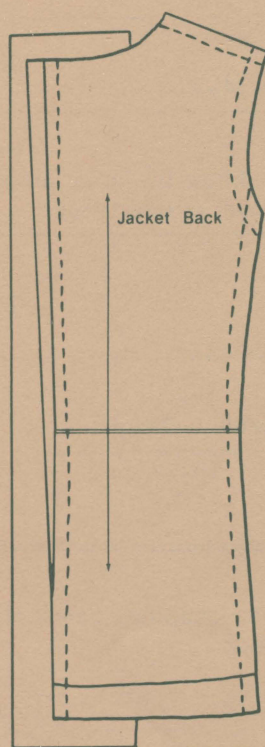

Figure 30. Allow a pleat for easy movement.
- A pleat in the center back lining allows for easy body movement. To form the pleat, add tissue paper to the center back pattern piece (Figure 30). Draw a line $\frac{1}{2}$ inch (1.3 cm) from the neck edge and taper to nothing at the lower edge. Note: If the center back is to be laid out along the fold line, position the pattern with the neck edge $\frac{1}{2}$ inch (1.3 cm) from the fold tapering to nothing at the bottom edge. Mark the points on the lining where the pleat is made.